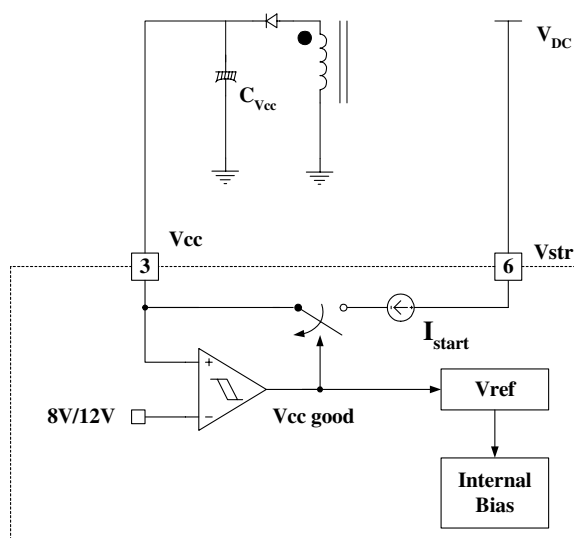

Figure 4. Internal startup circuit
1. Startup : In previous generations of Fairchild Power Switches (FPSTM) the Vcc pin had an external start-up resistor to the DC input voltage line. In this generation the startup resistor is replaced by an internal high voltage current source. At startup, an internal high voltage current source supplies the internal bias and charges the external capacitor (C_{Vcc}) that is connected to the Vcc pin as illustrated in Figure 4. When Vcc reaches 12V, the FSDM07652RB begins switching and the internal high voltage current source is disabled. Then, the FSDM07652RB continues its normal switching operation and the power is supplied from the auxiliary transformer winding unless Vcc goes below the stop voltage of 8V.